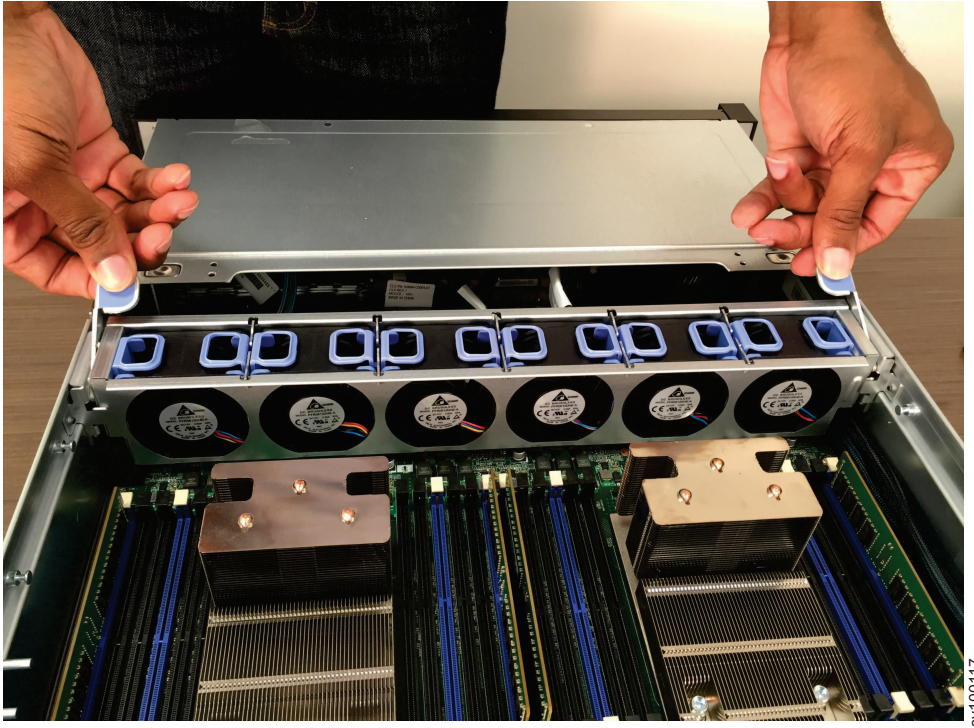

Figure 287. Pressing the fan bracket into position
3. Press the bracket into position until the fan-bracket release levers click into place, as shown in Figure 287 on page 347.